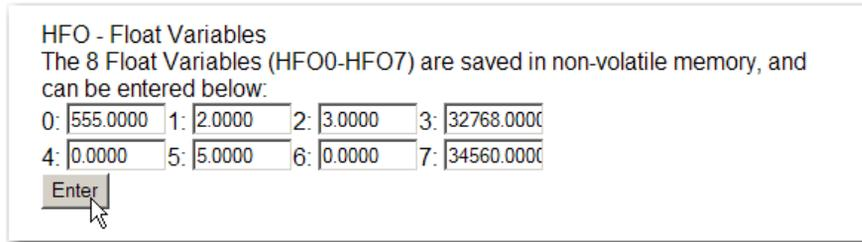

FIG. 241 MAPPING DISPLAY/HFO - FLOAT VARIABLES/ENTERING A VALUE FOR WORD 0
- Type in a value. For our example we used the value “555.0000”. (See Fig. 241)